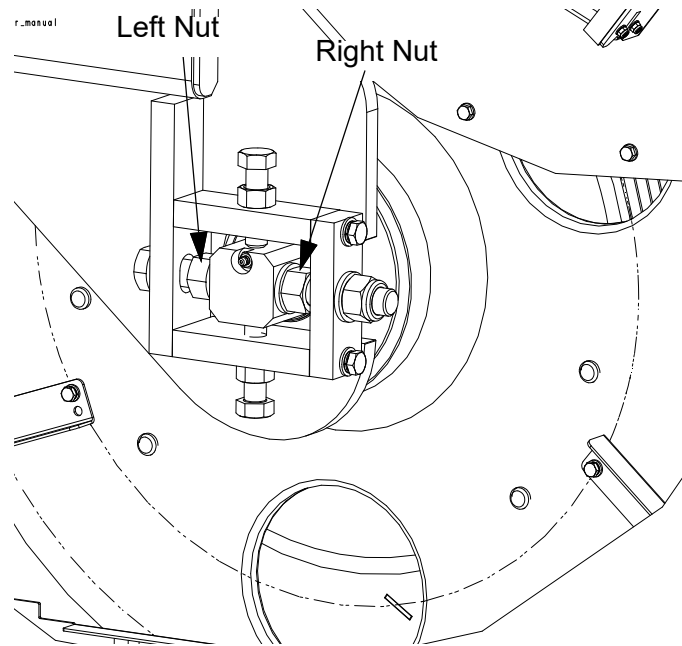

FIG. 3-27
See Figure 3-27
5. Use the cant adjustment nuts, shown in **Figure 3-27**, to adjust when the blade travels on the blade wheels.